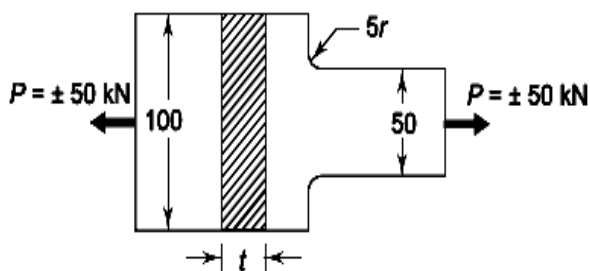

Figure 1
- (c) A component machined from a plate made of steel 45C8 ($S_{ut}=630 \text{ N/mm}^2$) is shown in **figure 1**. It is subjected to a completely reversed axial force of 50 kN. The expected reliability is 90% and the factor of safety is 2. The size factor is 0.85. Determine the plate thickness 't' for infinite life, if the notch sensitivity factor is 0.8. **07**